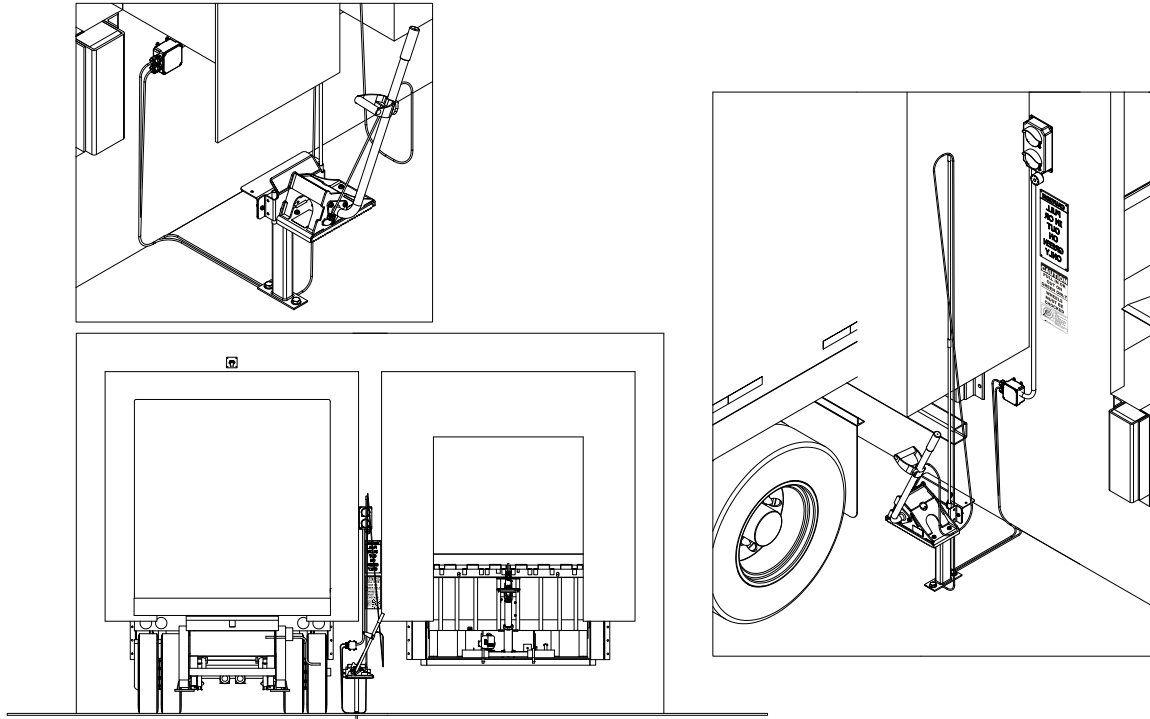

Figure 10
- Obstructions on or near the building wall that prevent standard bracket mounting. See Figure 10.
- b. If mounting directly to the concrete drive. See Figure 10.